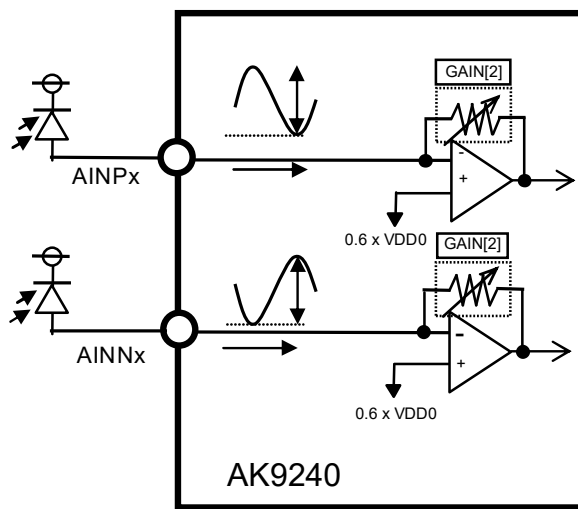

Figure 8. Current Mode Example
Figure 8 shows an usage example in Current Input Mode.
* 37. The current direction should only be incoming to the AK9240 as shown in Figure 8 in Current Input Mode.